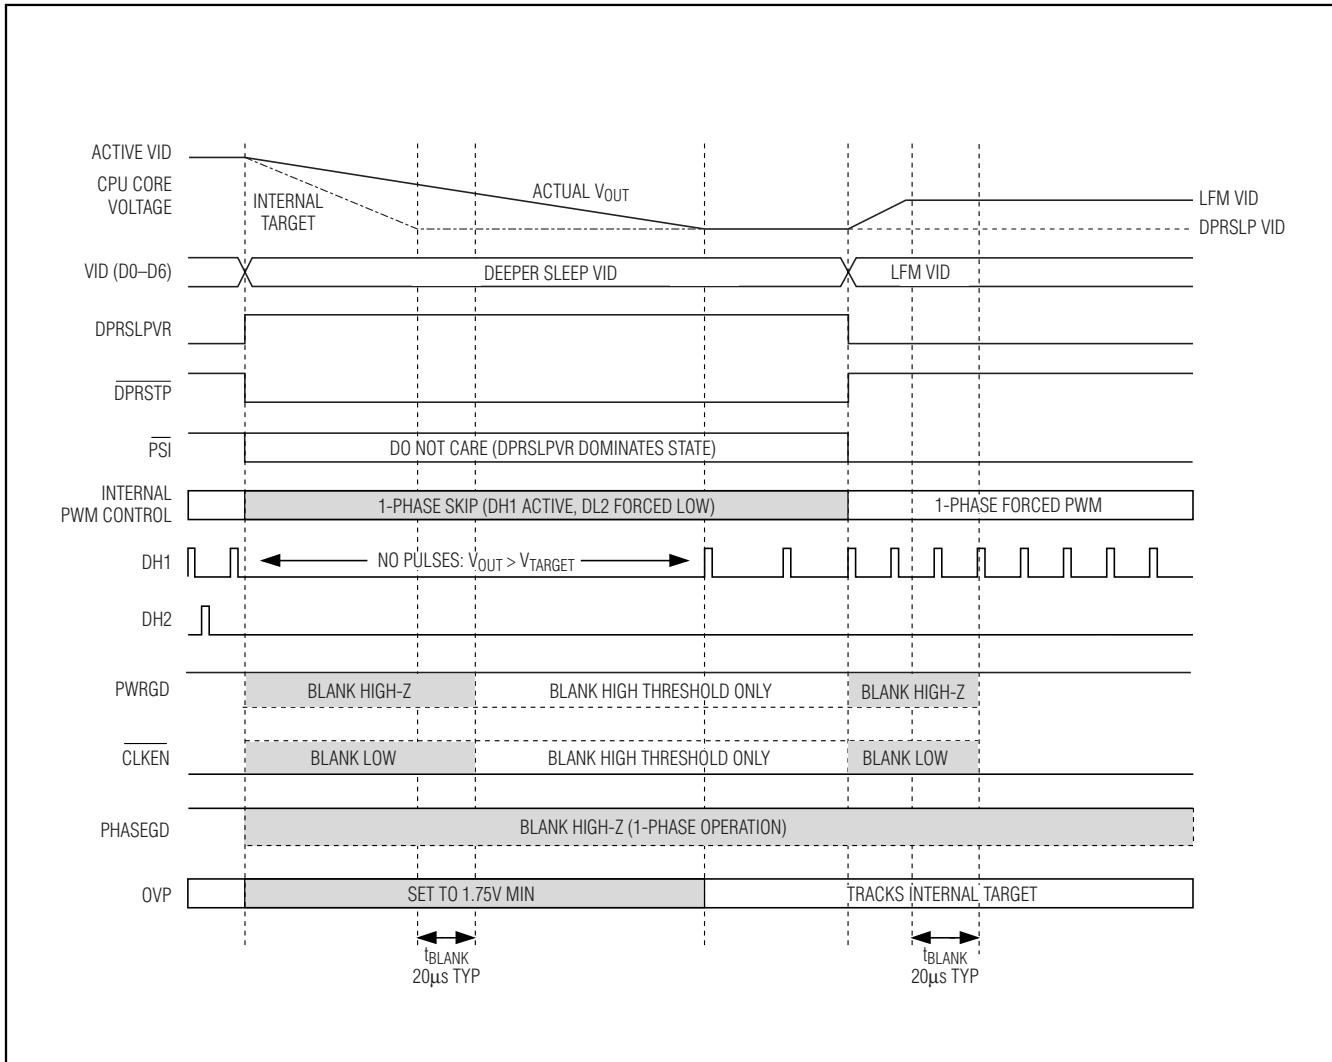

Figure 5. Standard C4 Transition
- **Standard C4 Deeper Sleep Exit:** When exiting deeper sleep (DPRSLPVR pulled low) while the output voltage is regulating to the deeper sleep voltage, the MAX8770/MAX8771/MAX8772 immediately activate all enabled phases and ramp the output voltage to the LFM DAC code provided by the processor at the slew rate set by RTIME. The controller blanks PWRGD, PHASEGD, and CLKEN (forced high impedance) until 20 μ s after the transition is completed. See Figure 5.